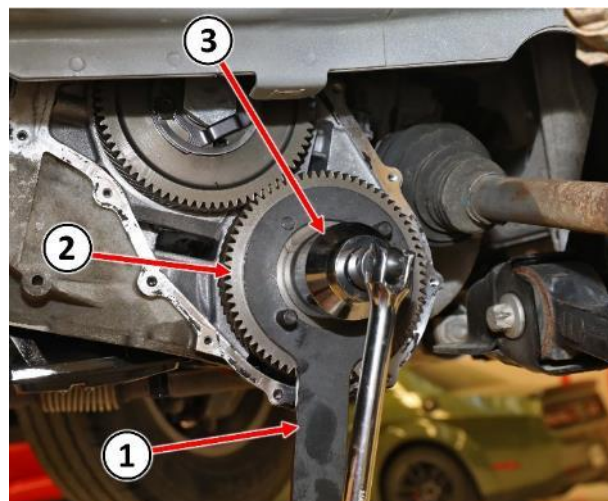

**Figure 22 – Transfer Gear Nut**
33. Install Holder 9739 (1) onto the transfer gear (underdrive compounder side) (2) (Figure 22).
34. Using a 50mm socket (3), remove the nut securing the transfer gear (underdrive compounder side) (2) (Figure 22).